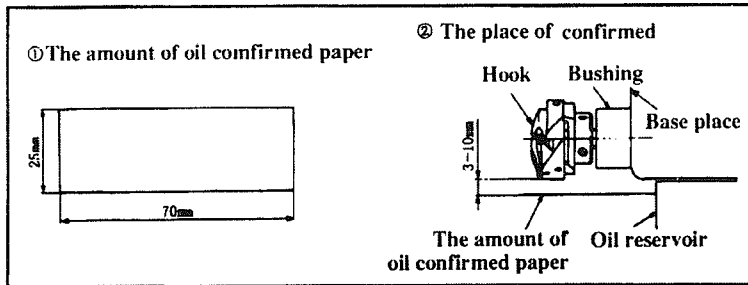

Fig. 7
## 3.ADJUSTING THE AMOUNT OF OIL SUPPLIED TO THE HOOK (Fig.7,
- 1) After cooling, the machine may be idling for three minutes (operating continued properly). (Fig.7)